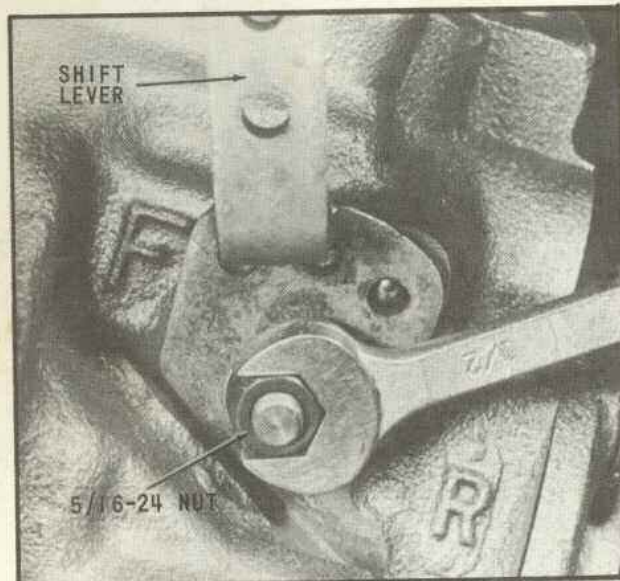
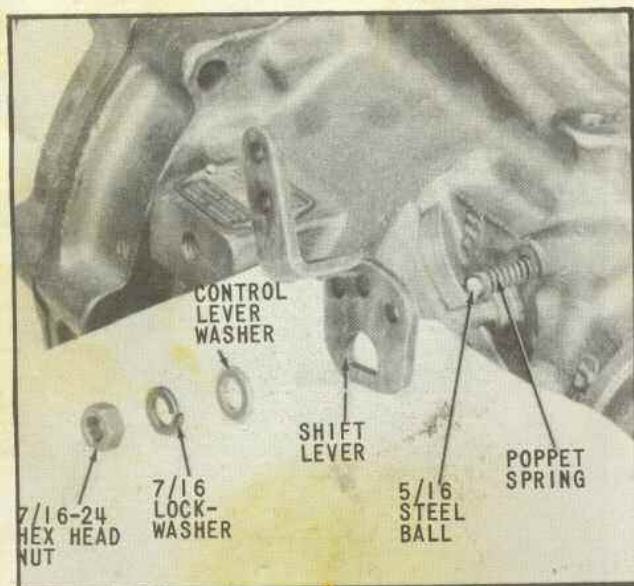

Fig. 76 Shift Lever Assembled
Fig. 75 Assembly of Shift Lever and Related Parts
76. Assemble shift lever and related parts in the order shown in (Fig. 75). Torque the hex nut 8 to 11 pounds-feet, (Fig. 76). Rotation of the valve and spring assembly through the forward, neutral and reverse positions should require no more than fingertip effort. If valve binds in rotation, remove and inspect.